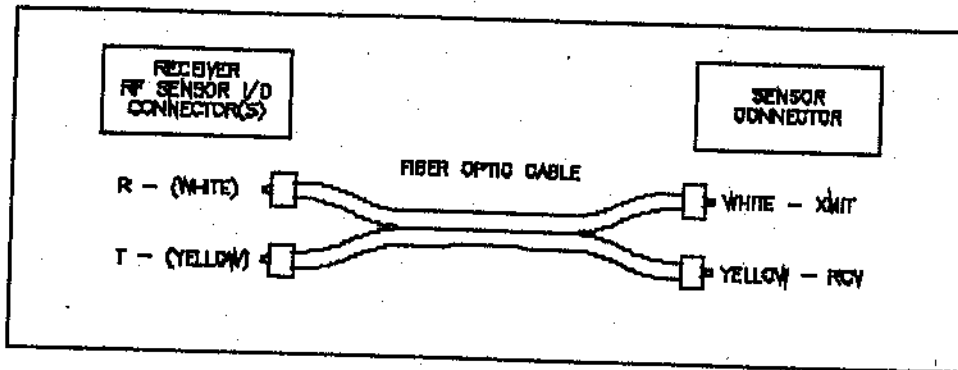

Figure 3-1
Step 3. Visually inspect the tips of the fiber optic cables to ensure that they are free from dirt or other contaminants. Connect the fiber optic cable to the RF SENSOR I/O connector pair (Figure 3-1); be sure to match the cable connector colors to those on the receiver connectors (yellow to XMIT; white to RCV).